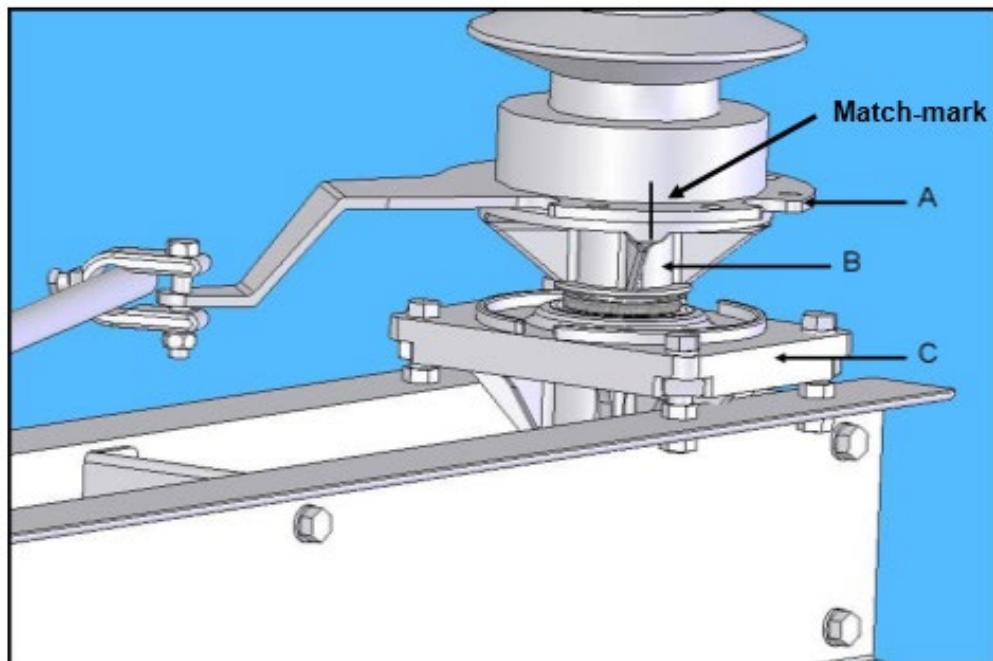

Figure 2: Match-Marked Components (Heavy Duty bearing)
3. Before disassembling the live parts from the switch base you must match mark each of the parts indicated to ensure correct re-assembly. Match-mark A to B and B to C as shown in **Figure 2**.